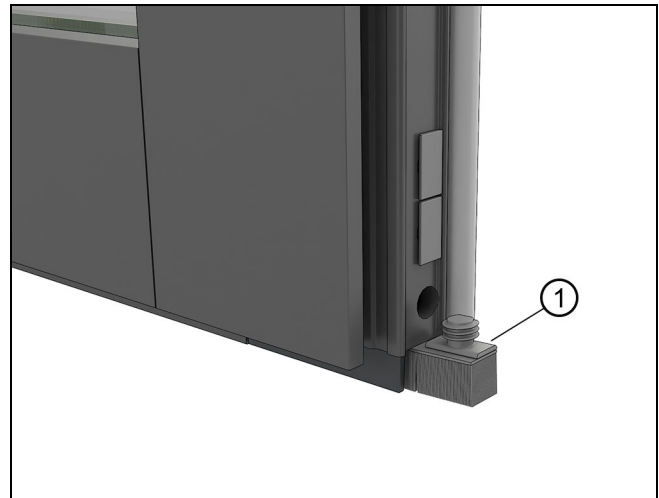

Figure 189
4. On inactive panels meeting stile side, pry the lower plug and dust cover down to reveal the adjustment hole. See Figure 189.